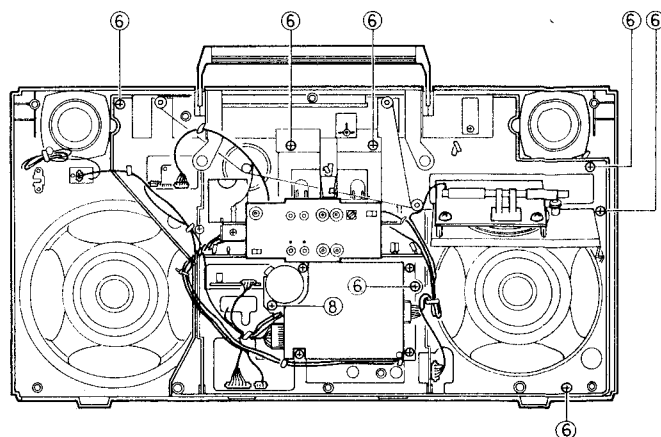

Fig. 7
**D. Mechanical unit (How to remove directly from the front cabinet) (Fig. 7, 8)**
1. Remove 4 screws (7) – SBSF3010V.
2. Remove a screw (8) – SBSF3030V.
3. Remove wire connectors (B), (D) ~ (F) and (I).